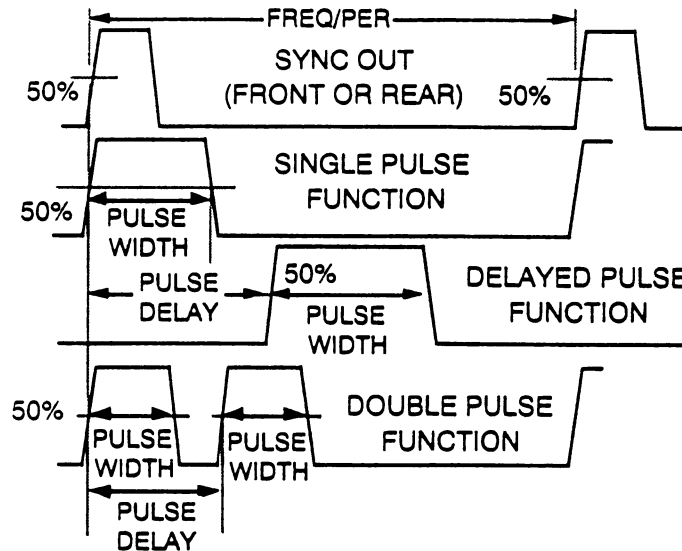

Figure 3-17. Pulse Parameters
The single pulse function produces one pulse per period. This pulse has variable pulse width, but the single pulse cannot be delayed (see paragraph 3.5.18 Delayed Pulses). The Model 91 defines at the 50% points; see figure 3-17, Pulse Function Parameters: Single Pulse Function. The Model 91 generates pulses in all operating modes; however, some operating modes may not be practical for pulse functions. The unit provides two sets of pulse outputs: the front panel Balanced and Unbalanced Outputs, and the rear panel Pulse Out and Pulse Out connectors. When using the Balanced and Unbalanced outputs, the Model 91 allows the user to set the pulse levels as amplitude and offset values or upper and lower levels voltages values. The rear panel outputs, which supplies pulses with the maximum transitions, supply pulses at five preset levels (positive ECL, negative ECL, CMOS, TTL, and Custom. Custom) permits the user to define their own
output levels. To minimize internal delay times, the unit allows either front panel sync pulse or rear panel sync pulse. Both sets of outputs can supply normal and complemented logic outputs. Figure 3-17 illustrates pulse parameters.
4. Select the Pulse Width. Press the "WIDTH" key (16) to display the current pulse width in seconds. The Model 91 defines the pulse width between the 50% points of the leading and trailing edge of the waveform; see figure 3-17. Use the Keypad (39) or the Knob (42), if enabled (ENABLE indicator (41) lit), to change the pulse width. The Knob increments or decrements the value starting with the flashing digit ("Knob" key (39)) and automatically enters the new value. When using the Keypad, enter values as actual numbers (50) or exponential notation (5E-1), press the "ENTER" key to accept the new value. Pulse width range depends on the Frequency or Period programmed. The overall ranges is 10 ns to 2000s with four digits of resolution. Minimum resolution is 100 ps.
Set up the Amplitude (also see 5B *Select the Upper and Lower Levels*). Use the "AMPLITUDE" key (5) to display the amplitude setting. Figure 3-17 illustrates pulse amplitude parameters. Use the Keypad (39) or the Knob (41), if enabled (ENABLE indicator (40) lit), to change the amplitude. The Knob increments or decrements the value starting with the flashing digit (Knob key (39)) and automatically enters the new value. When using the Keypad, enter values as actual number (10) or exponential notation (1E1), press the "Enter" key to accept the new value.
Set up the Offset. Use the "OFFSET" key (7) to display the dc offset level in volts. Offset is the waveform reference level relative to 0Vdc; see figure 3-17. Use the Keypad (39) or the Knob (41), if enabled (ENABLE indicator (40) lit), to
- 5B Select the Upper and Lower Levels. Upper and lower levels sets the peak levels of the pulse for the front panel Unbalanced and Balanced outputs; see figure 3-17, Pulse Output Parameters. Upper and lower Level, and Amplitude and Offset are interrelated, changing any one of each pair will affect the other pair.
To select the logic sense, press the "PULSE SETUP" key (19) until the display shows LOGIC. Then use the Knob to select either LOGIC NORM (0) or LOGIC COM (1). Logic sense affects both front and rear panel outputs. Normal pulses are in phase with the Sync Out; see figure 3-17, Pulse Output Parameters. Complement pulses are 180° out of phase with the Sync Out signal.